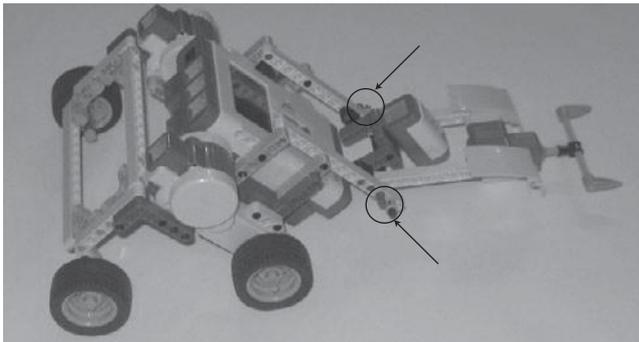

Figure 11.17
Step 1: Withdraw the two connector pegs with friction 3M from the end of both 11M straight beams and slide the beams between the robot's color sensor and the support beams to which the color sensor is attached. Attach the end of the touch sensor assembly's support beams to the robot, as shown in Figure 11.17 using the two connector pegs with friction 3M that you previously withdrew.